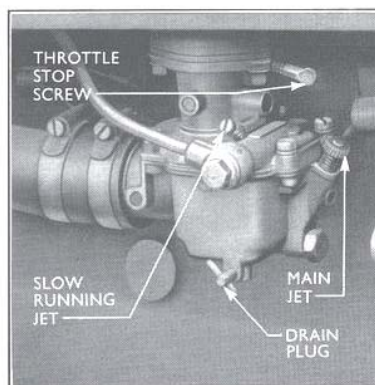

Fig. 8.
2. Close the throttle (lever fully anti-clockwise) and adjust the throttle stop screw (Fig. 8) to give an engine speed of 400-450 r.p.m.